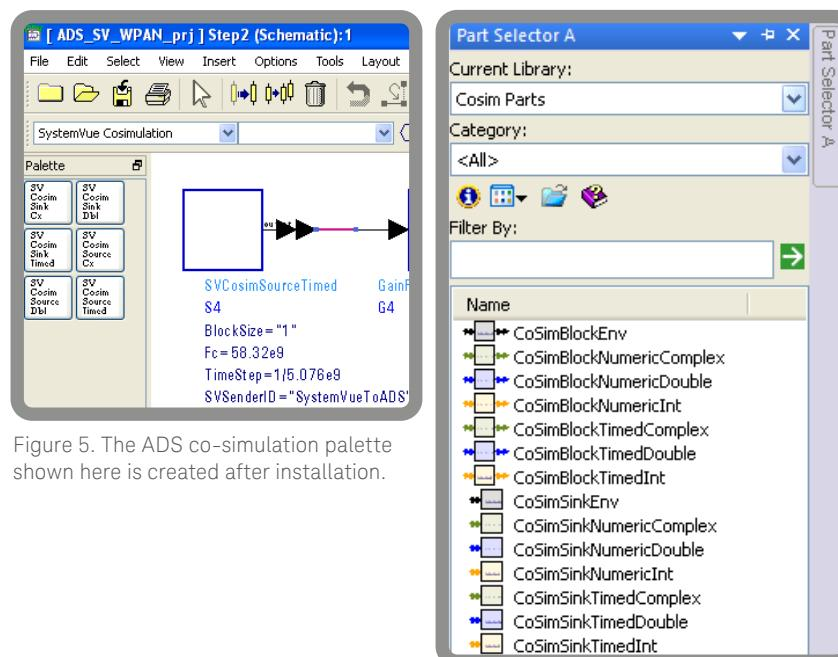

Figure 5. The ADS co-simulation palette shown here is created after installation.
- Exit ADS, if it is currently running. Establish environment variables for **HPEESOF_DIR** and **ADSPTOLEMY_MODEL_PATH**, per the instructions in the “SETUP” document. When you run ADS, you should have a new DSP schematic palette called “SystemVue Cosimulation” as shown in Figure 5.